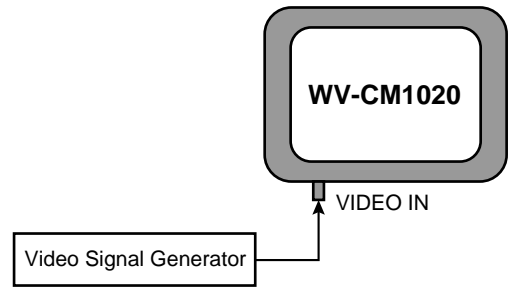

Fig 3-1
- Fig. 3-1 shows the connecting diagram for adjustment procedure of the WV-CM1020.